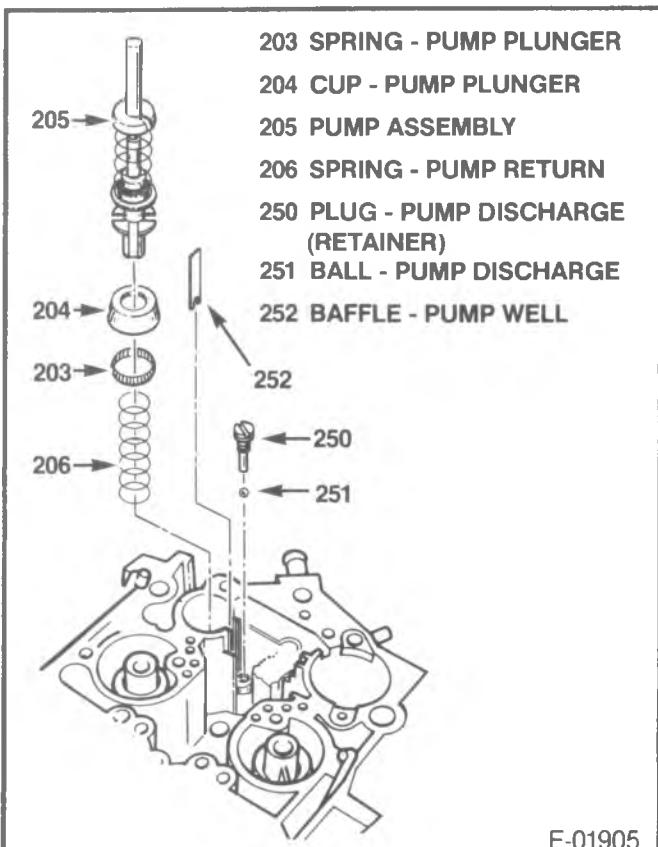

Figure 24 -- Pump and Discharge Ball
-  Remove or Disconnect (Figure 24)
1. Air horn to float bowl gasket (201).
2. Pump assembly (205).
Disassemble (Figure 24)
↔ Remove or Disconnect (Figure 24)